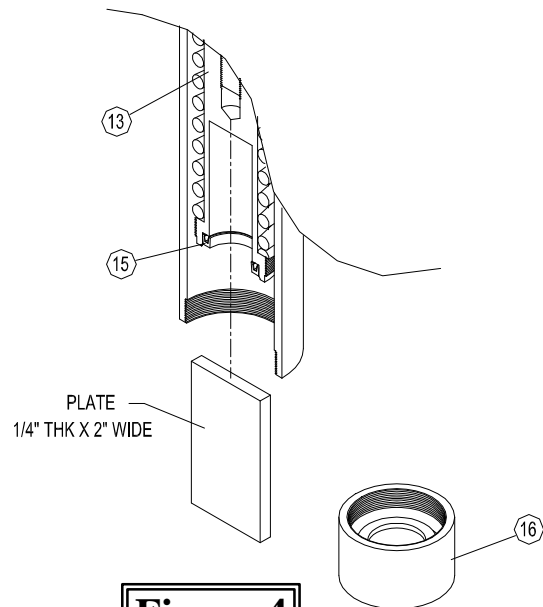
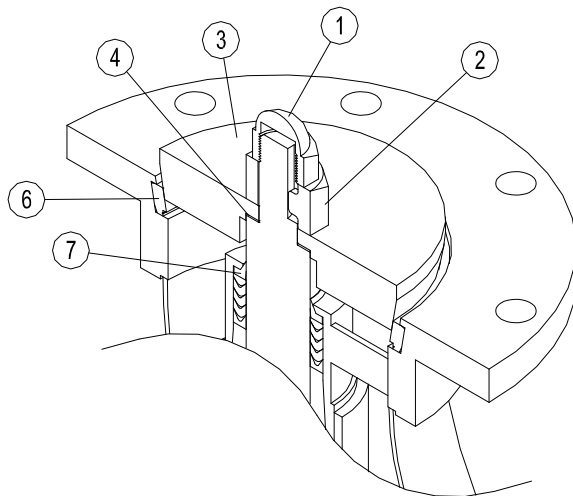

Figure 4
Figure 5
If lower stem half (13) remains in valve body after seal retainer ring (16) has been unscrewed, continue to hold cap collar (2) and insert a 1/4" thick x 2" wide piece of plate into the slots on the bottom of lower stem half to unscrew it from the upper stem half (See FIGURE 4). Remove main spring (12), washers (8) & (11) and stuffing box spring (10). Remove old packing (9) and wiper (7). Clean and inspect stuffing box. If the stuffing box is pitted the valve must be replaced. Inspect upper stem half. Replace upper stem half (5) if it contains pits or scratches that cannot be easily removed by polishing. Replace old packing with a full set of new packing and a new wiper. See figure 5 for packing orientation.